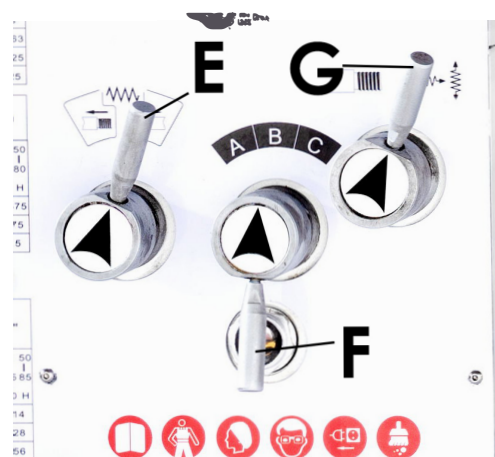

Fig. 12
4. Feed Direction Selector (E, Fig.12)
5. Feed Rate Selector (F, Fig.12)
6. Feed/Thread Selector (G, Fig.12)